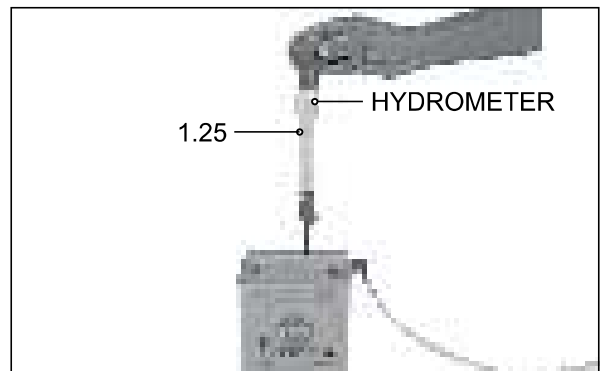

Fig. 5.93
- Check the electrolyte specific gravity reading using the hydrometer. (Fig. 5.93) If the reading is not within the specified limit, it indicates that the battery needs charging.